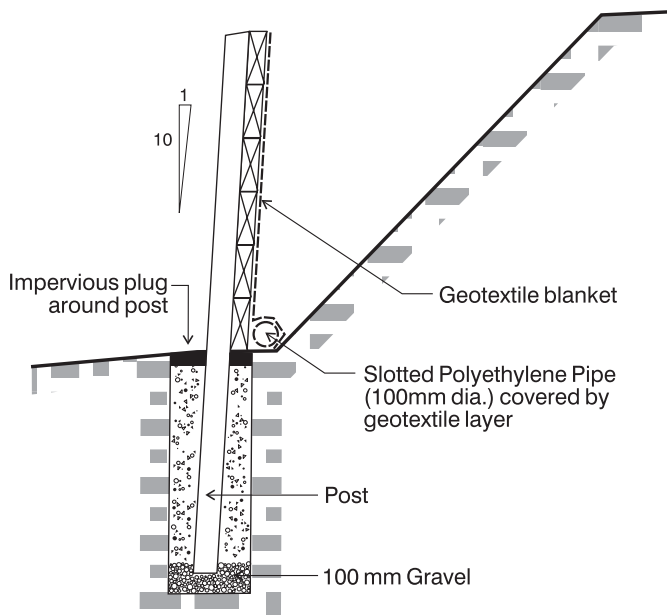

Figure 6 - Wall prior to backfilling
- Place drainage blanket (geotextile) to inside of face to prevent backfill material from flowing out small gaps and to assist in drainage. Lay a slotted polyethylene pipe at the base of the wall to an outlet (refer figure 6).